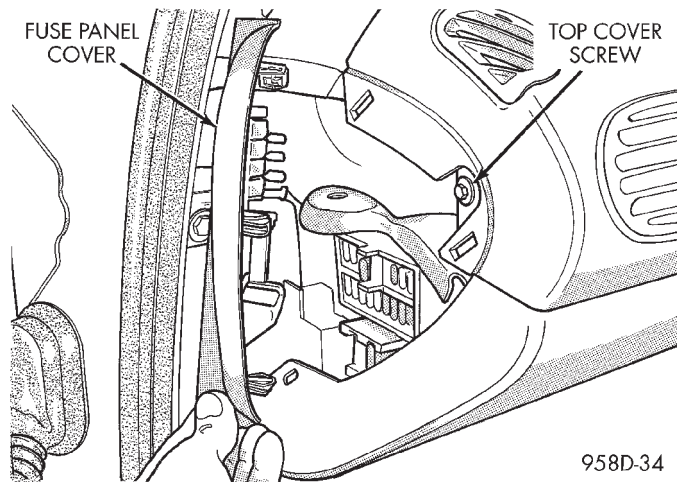

Fig. 51 Instrument Panel Top Cover—Left End
- (1) Disconnect negative cable from auxillary jumper terminal on driver's side strut tower.
- (2) Remove fuse panel cover from left end of instrument panel. Remove screw holding end of instrument panel top cover (Fig. 51).